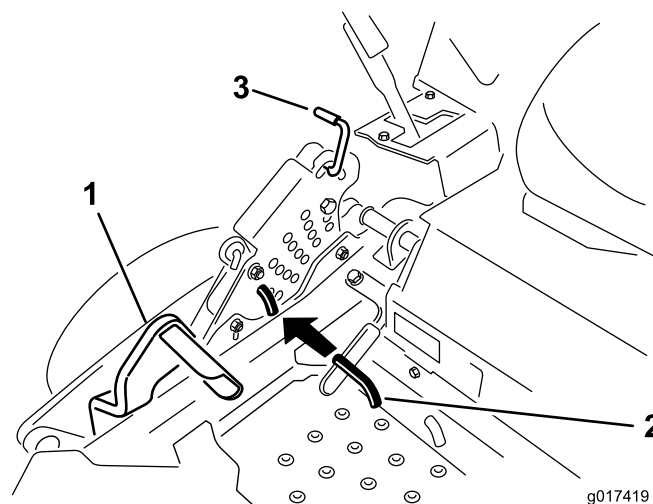

Figure 25
2. Push on the deck lift pedal with your foot and raise the mower deck to the transport position (also the 5-1/2 inch (140 mm) cutting height position) (Figure 25).
3. To adjust, rotate the pin 90 degrees and remove the pin from the height-of-cut bracket (Figure 25).
4. Select a hole in the height-of-cut bracket corresponding to the height-of-cut desired and, insert the pin (Figure 25).